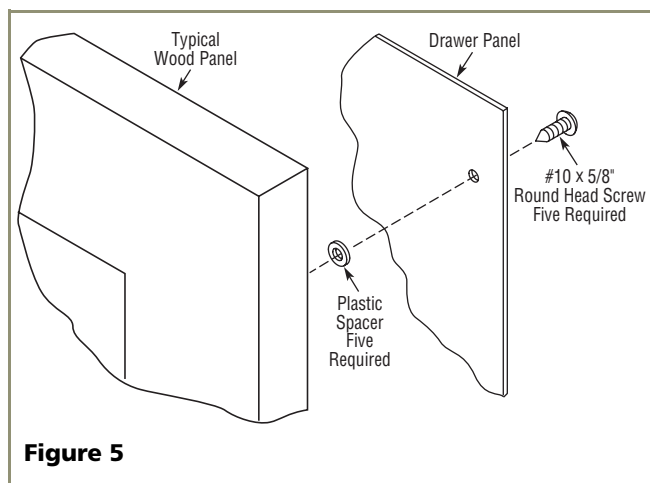

**Figure 4**
3. Drill the five holes (5/32" drill 3/8" deep) through both panels according to **Figure 4**.